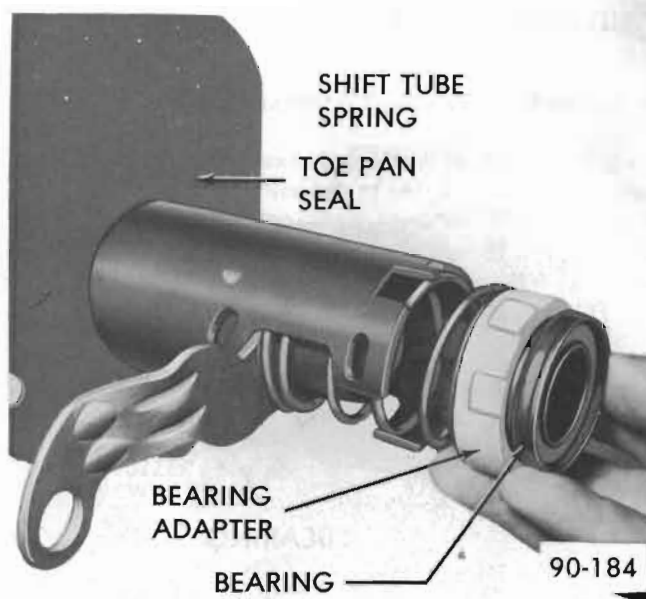

Figure 90-96 Removing Lower Steering Column Bearing
4. (Automatic Transmission) Remove bearing adapter retainer, bearing and adapter assembly and shift tube spring. (Bearing may be removed from adapter by a light pressout operation on the outer race of the bearing. See Figure 90-96.